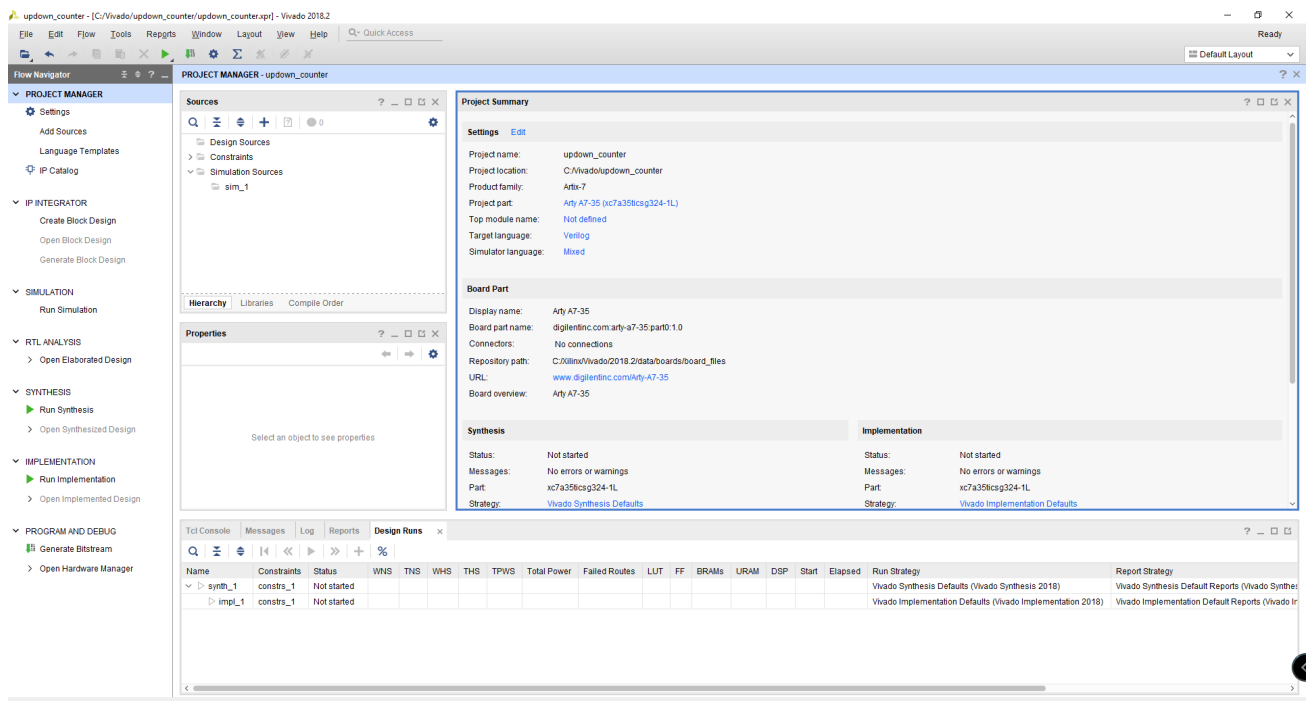

Figure 6: Project Manager window
7. After creating the project, the "Project Manager" window will open (see Fig. 6).